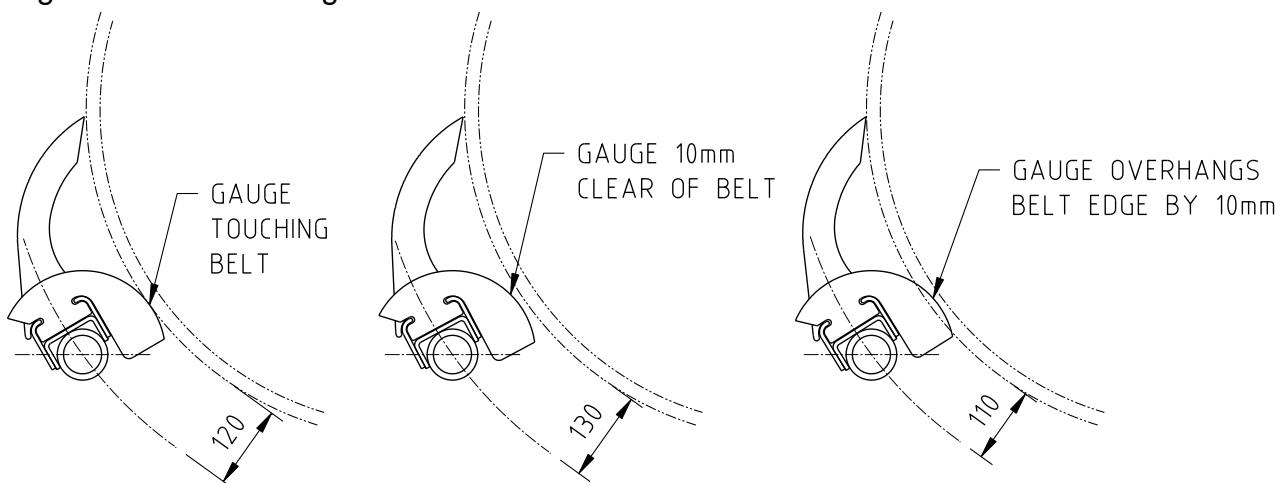

Figure 10 – Use of Installation Gauges
The **XHD 20-Ten Series Spring Tensioner** is a simple, robust and reliable tensioning unit. It can be assembled to tension in either the clockwise or anti-clockwise direction and has two mounting positions for each direction – see figure 10.
2. Determine the tensioning direction required from the figure 10 preceeding.